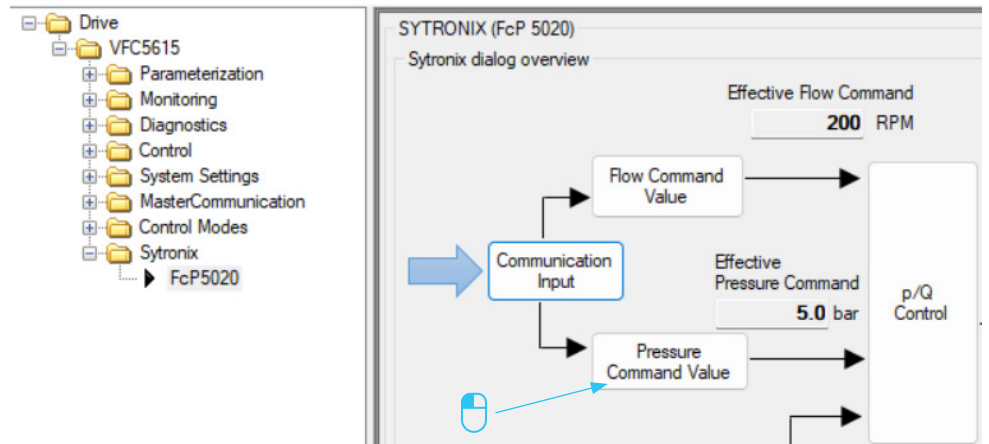

Fig. 27: Pressure command value via analog 1/2
1. Press "Pressure Command Value" (see Fig. 27: Pressure command value via analog 1/2).